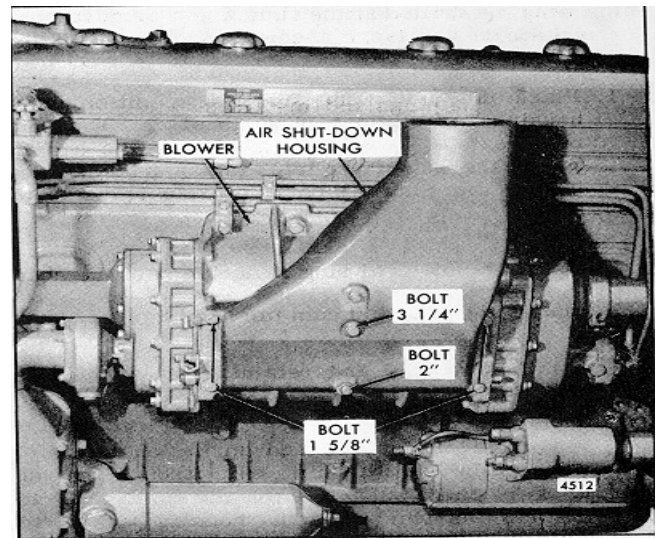

Fig. 2 - Air Shut-down Housing Mounting and Bolt Location
2. Refer to Fig. 2 and mount the air shut-down housing together with the striker plate gasket and striker plate (if used) on the blower with bolts and lock washers and tighten the bolts to 16-20 lb-ft torque.
**NOTE:** The 3/8"-16 x 3-1/4" bolt and the 3/8"-16 x 2" bolt must be installed, as shown in Fig. 2. The four 1-5/8" bolts are installed in the four corner bosses of the housing.